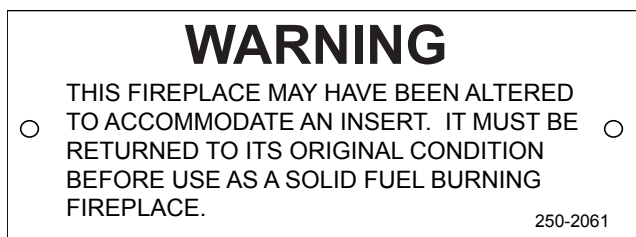

Figure 10.1
- The permanent metal warning label provided must be attached to the back of the fireplace, with screws or nails, stating that the fireplace may have been altered to accommodate the insert, and must be returned to original condition for use as a conventional fireplace. **Figure 10.1**